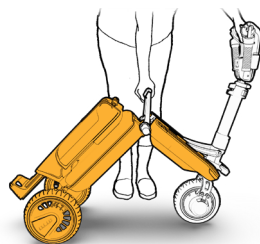

Figure 9
7. Using the main handle, pull the main body away from the rod, thus rolling the back wheels away from the front wheel (see Figure 9).